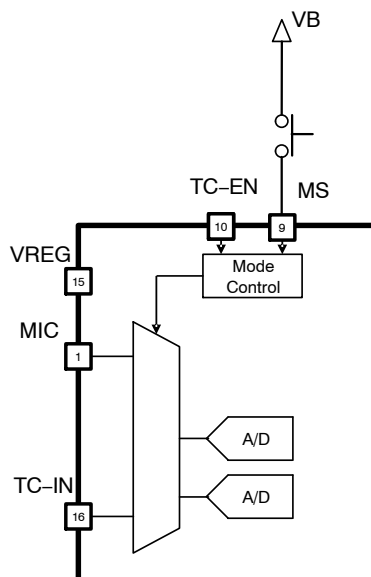

Figure 11. Push Button Support
R3110 supports the use of momentary switches via the Mode Select (MS) pin. It allows rotation between the three input modes (Simple Mode, Advanced Mode, Telecoil Mode (TCM)) as defined in “Input Modes”, in a sequential manner (i.e., Simple Mode, Advanced Mode, TCM, Simple Mode, Advanced Mode, TCM, ...). As shown in Figure 11, a momentary switch must connect the MS pin to the VB pin to enable this functionality. R3110 switches from Simple Mode to Advanced Mode, then TCM, and then rolling over back to Simple Mode, each time the momentary switch is pushed. When this function is not desired in the hearing aid, the MS pin can be left floating.